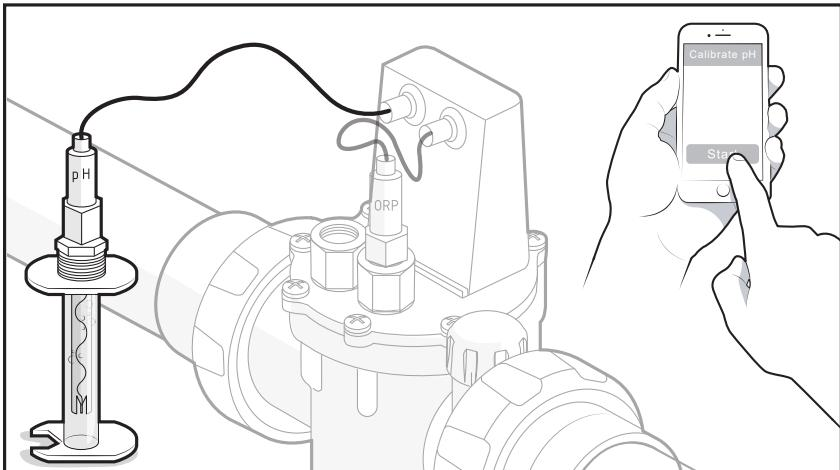

Figure 7. Submerge sensor & start calibration
10. Submerge the sensor into the pH 7 buffer solution inside the storage tube. Start calibration in the iAquaLink app or on the OneTouch controller (AquaLink® RS only) go to: MENU / HELP > SYSTEM SETUP > pH > 2 POINT, see Figure 7.